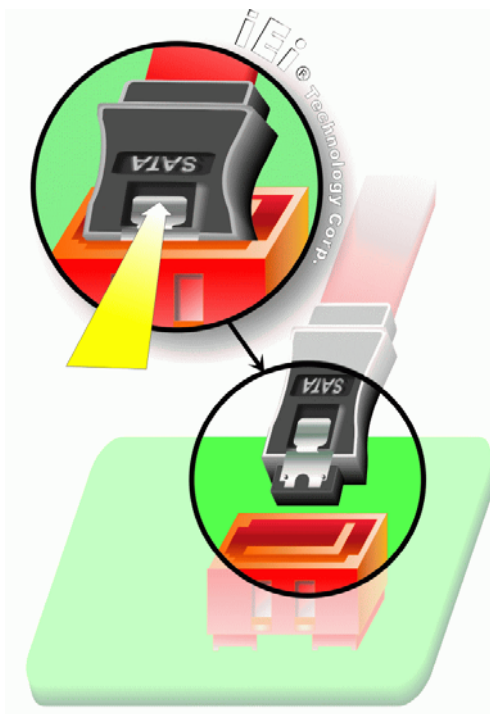

Figure 5-19: SATA Drive Cable Connection
Step 2: Insert the cable connector. Press the clip on the connector at the end of the SATA cable and insert the cable connector into the onboard SATA drive connector. See **Figure 5-19**.